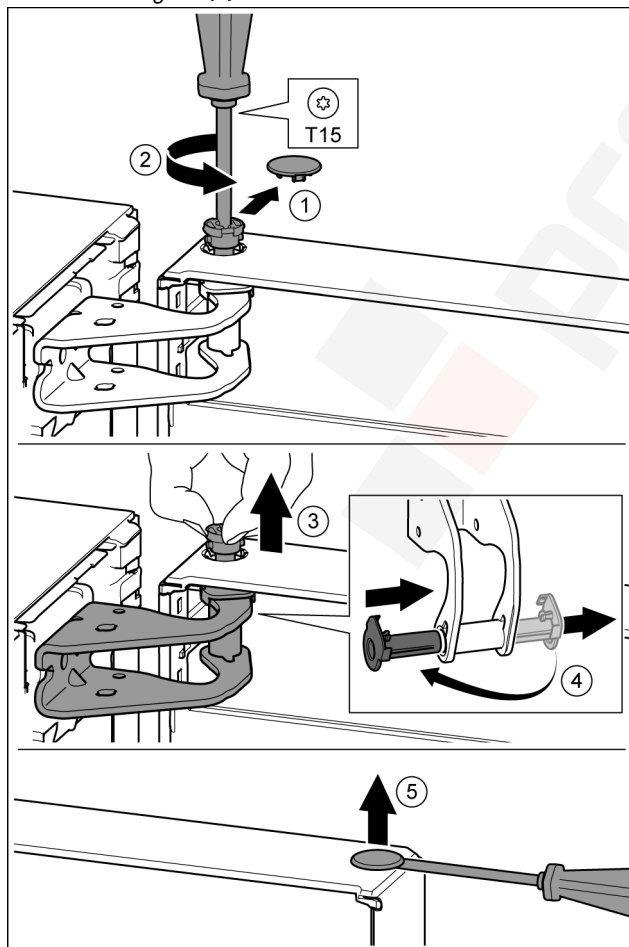

Fig. 22
- Carefully remove the protective cover. Fig. 22 (1)
- Undo the bolt a little with a T15 screwdriver. Fig. 22 (2)
- Hold the door and remove the bolts with your fingers. Fig. 22 (3)
- Pull the bearing bush out of the guide. Insert from the other side and click into place. Fig. 22 (4)
- Carefully lift the plugs out of the door bearing bush with a slotted screwdriver and remove. Fig. 22 (5)